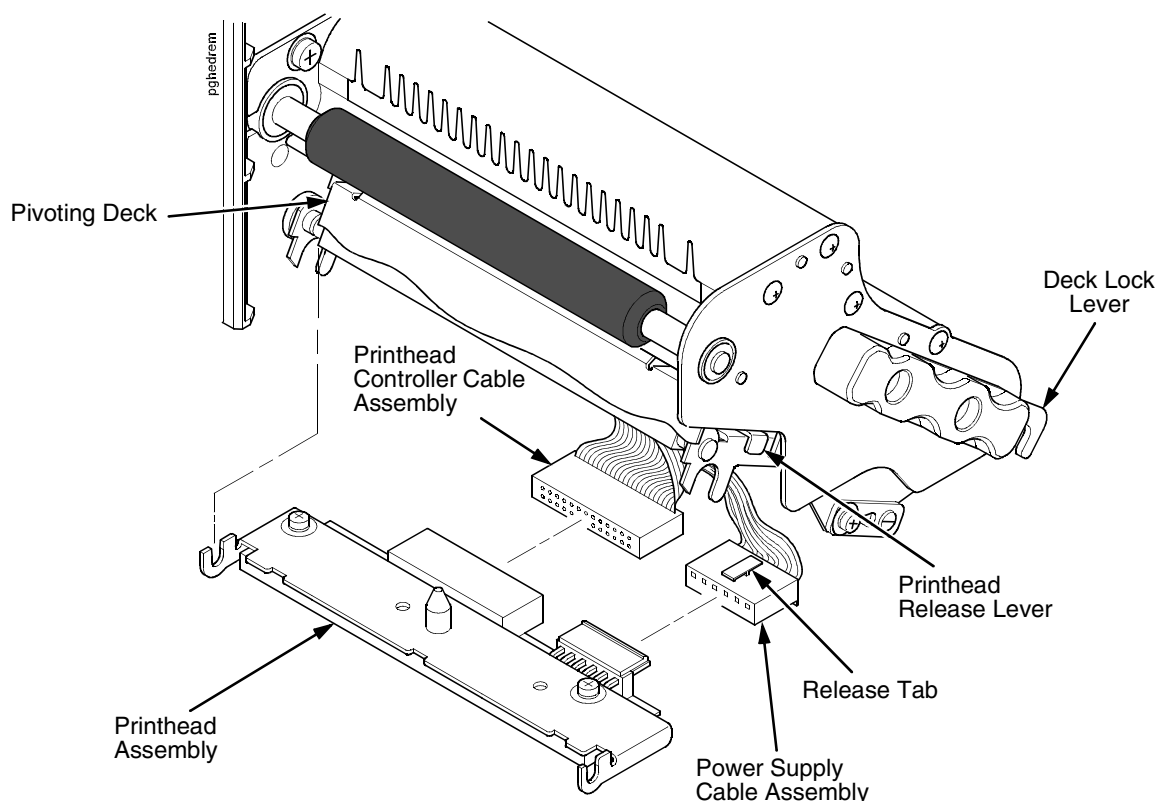

Figure 4. Replacing the Printhead Assembly
3. Close the pivoting deck by rotating the deck lock lever fully clockwise. (Figure 4.)